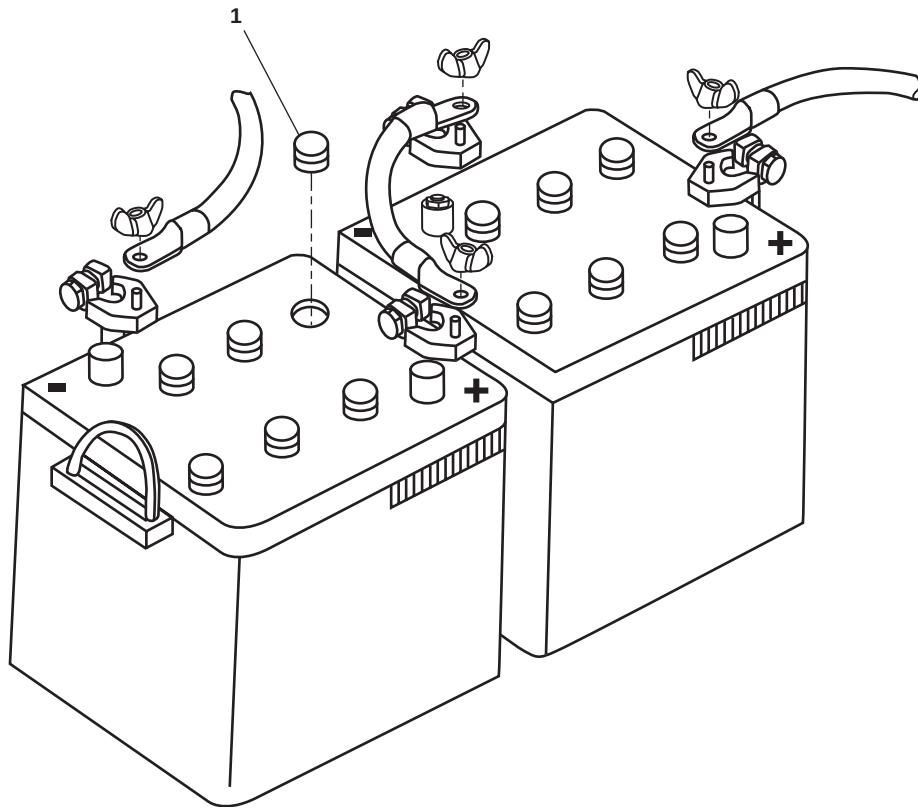

Figure 1. Battery, Power Supply System
1. Remove the battery filler caps (figure 1, item 1) and check the liquid level of each battery cell. The liquid level should be at the bottom of the split ring on each cell.
7. Return the electrolyte to the battery cell and install the battery cap (figure 1, item 1).